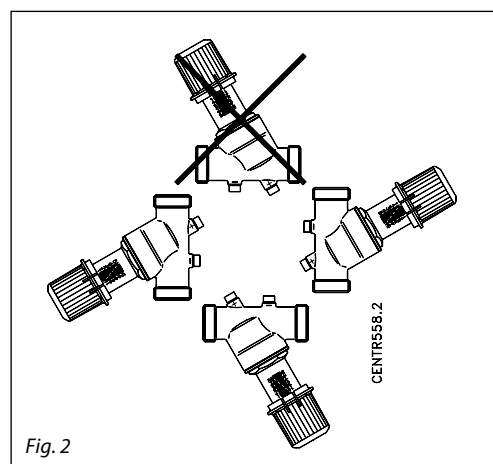

Fig. 2
- in systems where it cannot be excluded that drinking water is contaminated with fine dust from time to time, it is recommended not to mount the pilot valve with the impulse tube connections downwards (fig.2) to avoid dirt ingress in the impulse tubes and diaphragm housing